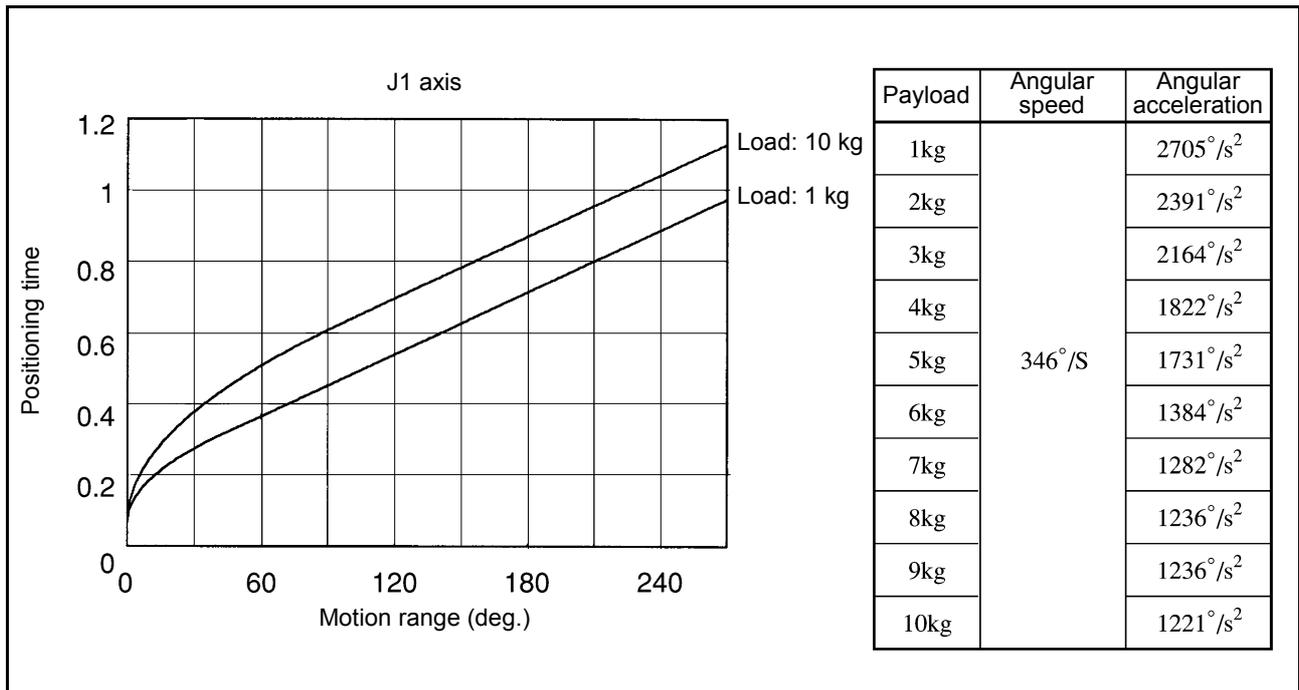

Figure 1-9 Movement of J1 axis
1. Figures 1-9 through 1-23 show the positioning times used to calculate the cycle time.
The positioning time of J1 and J2 axes shown in Figures 1-9, 1-10, 1-19, and 1-20 therefore becomes longer according to the maximum speed limit shown below.
$$\frac{[\text{Travel time given in Fig. 1-9, 1-10, 1-19, or 1-20 (sec.)}]}{\text{Max. speed limit}} \times 100 \text{ (sec.)}$$